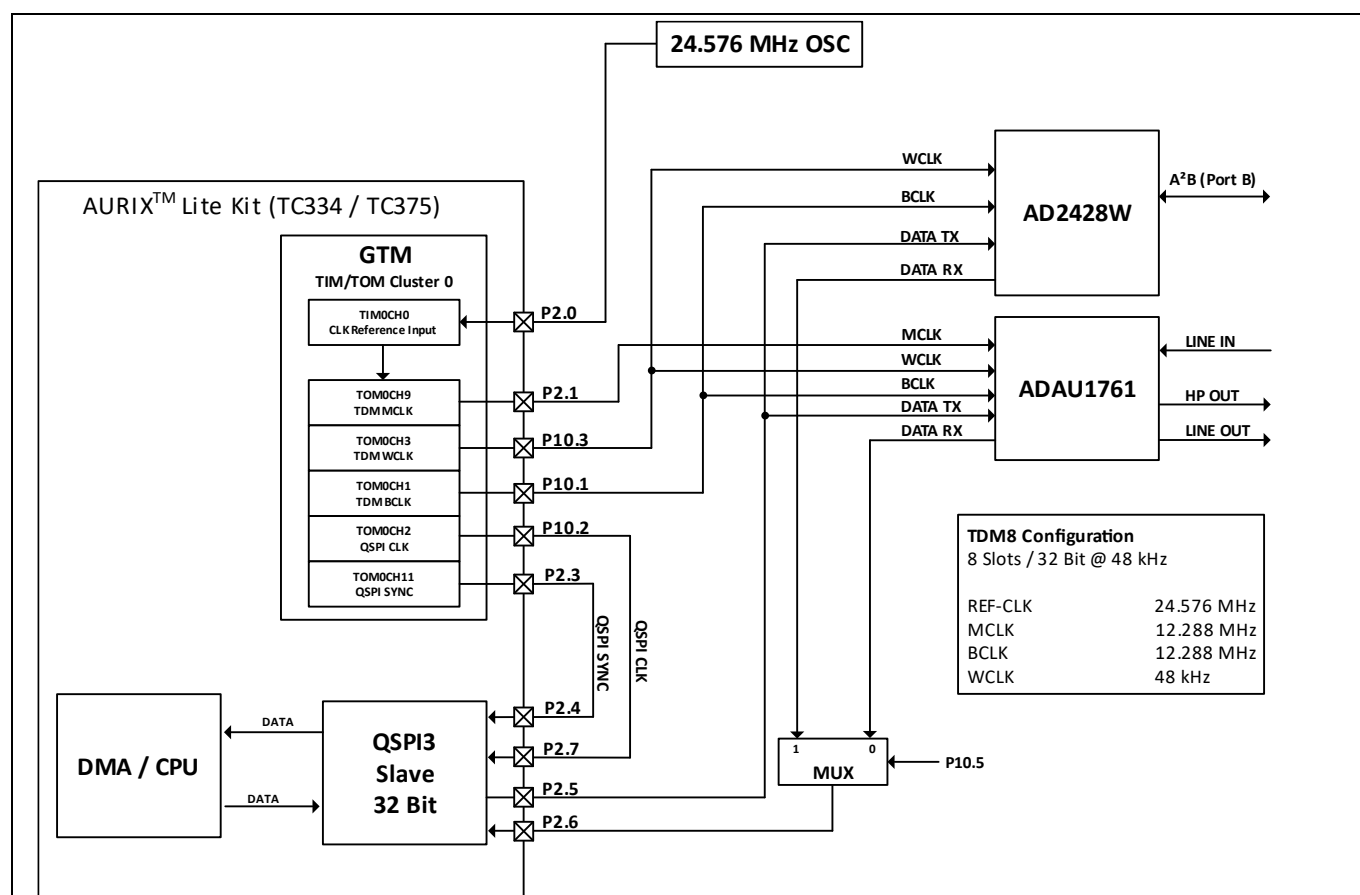
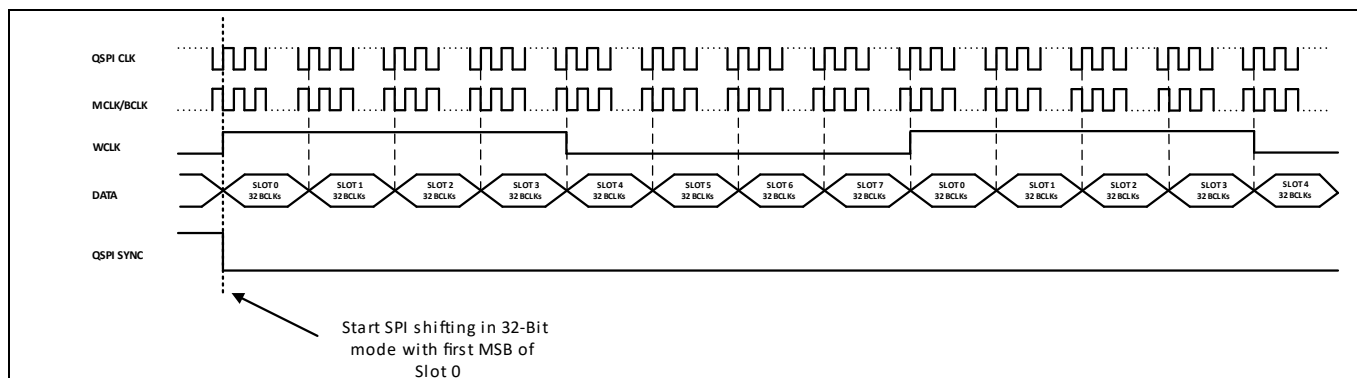

Figure 12 Concept of the I²S emulation of the TDM stream
Figure 13 Timing diagram of the 8 channel TDM stream
- The transceiver on the master board sends the data in an 8 channel TDM stream to the AURIX™. A concept drawing of the I²S/TDM emulation and a timing diagram of the TDM stream are shown in Figure 12 and Figure 13. For further details please refer to [\[2\]](#).